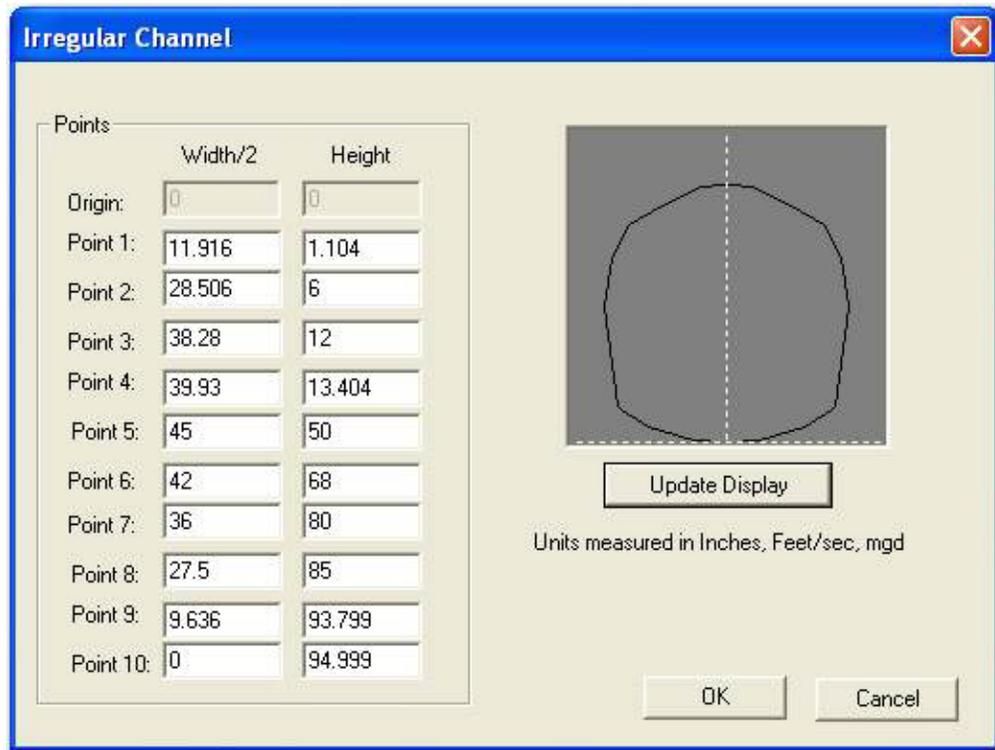

Figure 2-10 Irregular Channel Configure window
For irregular shapes, select Irregular > Configure Points (Figure 2-10).
7. Enter the Width/2 (half the width) and its corresponding Height for ten different points (Heights) in the channel. Point 1 represents the lowest point in the channel. As you enter the widths/2 and their corresponding heights, click Update Display to see them represented graphically (Figure 2-10).